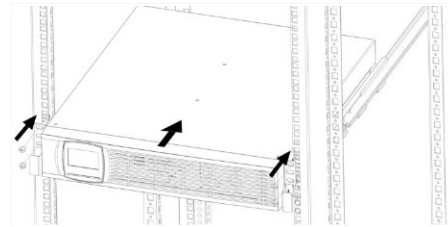

Figure 10: Rack mounting
6. Secure the mounting bracket of the UPS system and the battery packs in the rack (see Figure 10).